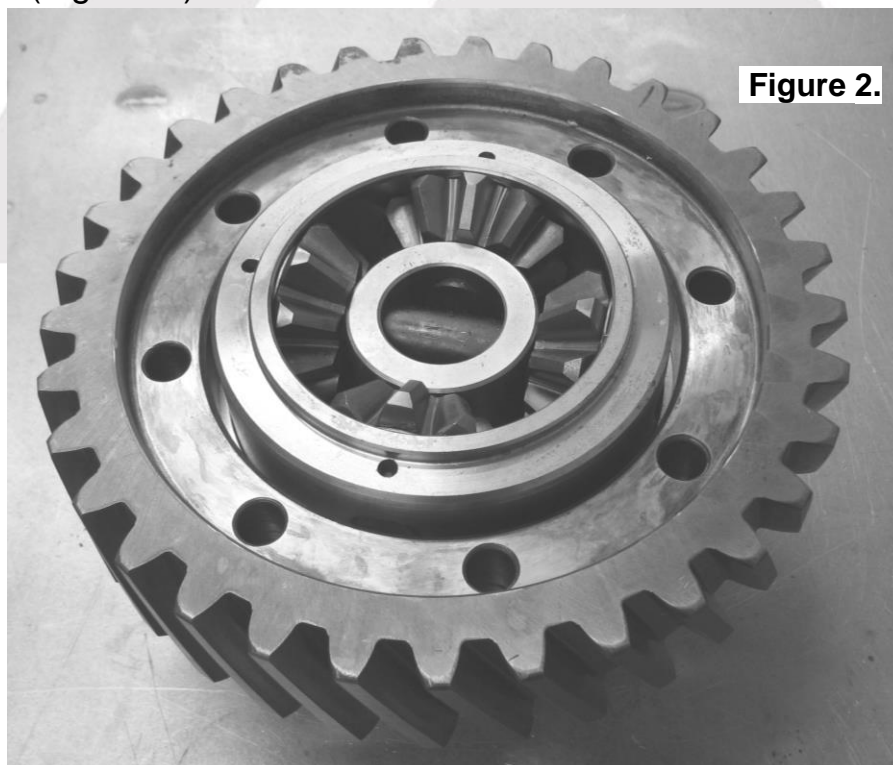

Figure 2.
- Install the ring gear onto the case of the *Air Locker* by aligning the bolt holes and then gently tapping it around in a circle with a soft mallet (Figure 2.).